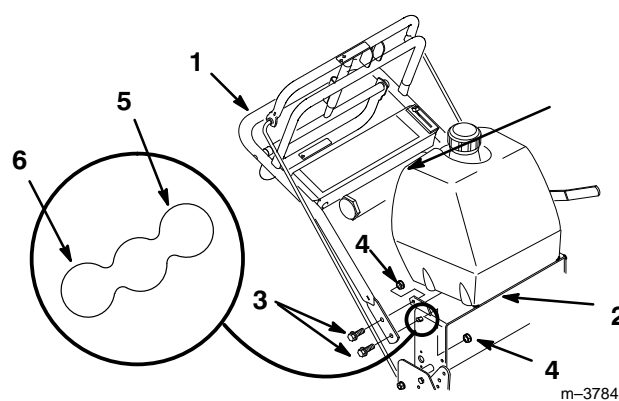

Figure 2
- Position handle outside frame and align mounting holes. Select desired lower mounting holes for high, medium or low position according to operators height (Fig. 2).
- Secure each side with (2) 3/8-16 x 1" (26mm) bolts and (2) 3/8-16 locknuts (Fig. 2).